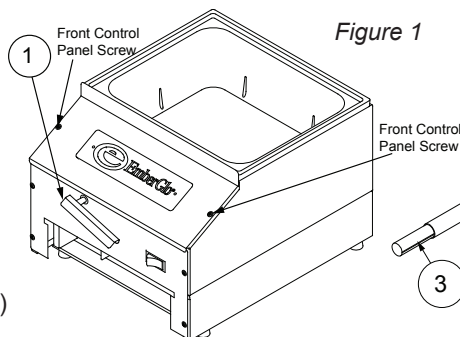

Figure 1
- Unplug the steamer and remove the two screws from front control panel. (Fig. 1)
- Replace the control panel and tighten the two screws. (Fig 1)